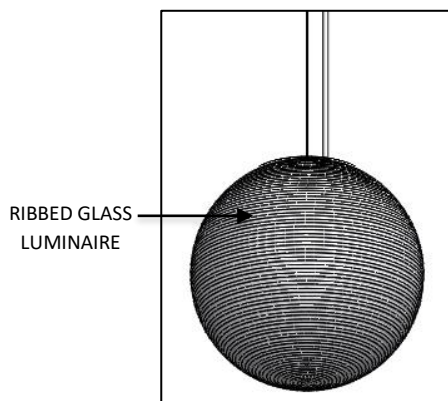

FIG. 2 - RIBBED GLASS LUMINAIRE
1. RIBBED GLASS LUMINAIRE with CORD and AIRCRAFT CABLE attached. (Pre-assembled as shown in FIG. 2)